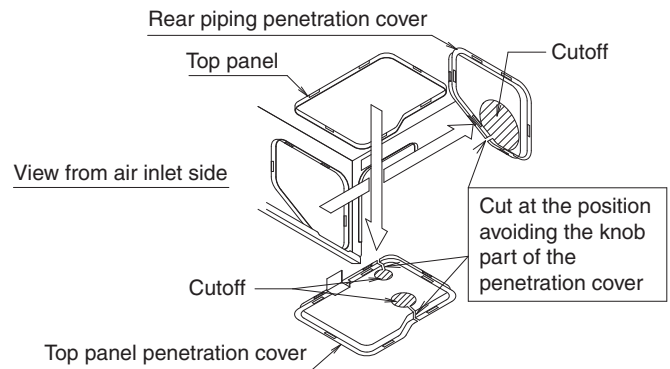
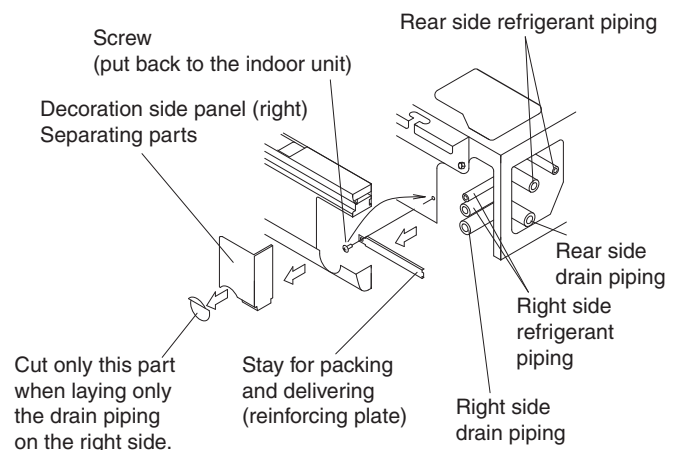
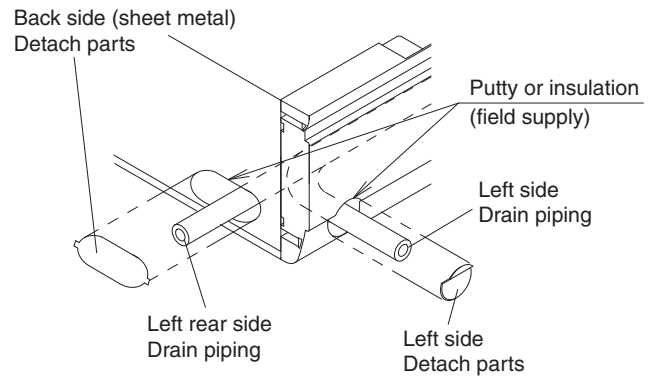

Fig. 16
Fig. 18
Fig. 21
- Remove the stay for packing and delivering (reinforcing plate) before refrigerant piping work. **(Refer to Fig. 18)**
**(1) For rear side piping**
- Remove the rear piping penetration cover, and connect the piping. **(Refer to Fig. 16 and 18)**
**(2) For upward piping**
- Remove the top panel penetration cover, and use the L-shaped connection piping kit (optional accessory) to conduct piping. **(Refer to Fig. 16 and 17)**
**(3) For right side surface piping**
- Remove the stay for packing and delivering (reinforcing plate) at the right side, and put back the screw to the original position of the indoor unit. **(Refer to Fig. 18)**
- Open the knockout hole at the decoration side panel (right), and connect piping. **(Refer to Fig. 18)**
- After piping is finished, cut the removed penetration cover along the shape of piping, and install. Also, for top panel penetration cover, as it was before removed, put the horizontal blade motor and thermistor lead through the clamp of the top panel penetration cover and fix. **(Refer to Fig. 16 and 19)** When doing this, block any gaps between the piping penetration cover and the piping using putty to prevent dust from entering the indoor unit.
- Drain piping can be connected from the following directions: For right rear/right side, refer to Fig. 18 of "6. REFRIGERANT PIPING WORK", and for left rear/left side, refer to Fig. 21.